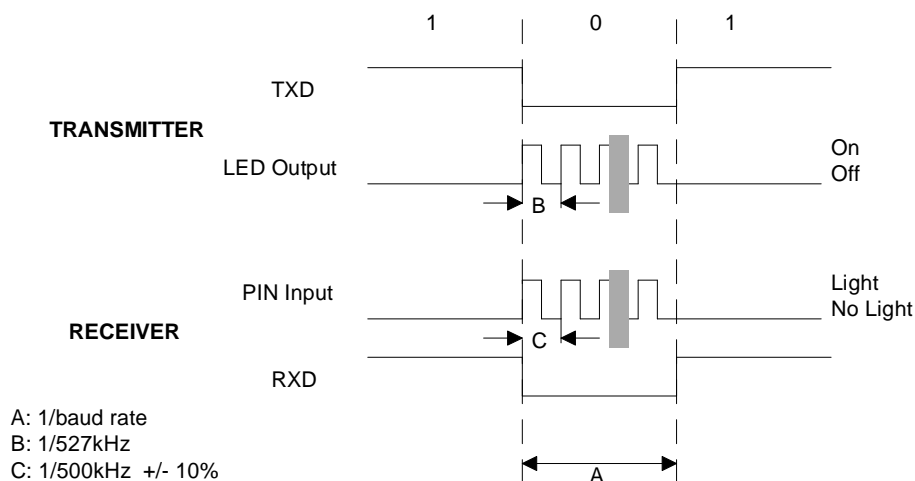

Figure 3. Infra Red Data Format Mode 2 (500kHz ASK)
Figure 3 shows the infrared data format for Mode 2. This is a Carrier Wave (CW) type system, where the presence of a 500kHz carrier is treated as a '0', and absence of a carrier is treated as a '1'. Normally used baud rates are 9600 bps, 19.2 kbps and 38.4 kbps.